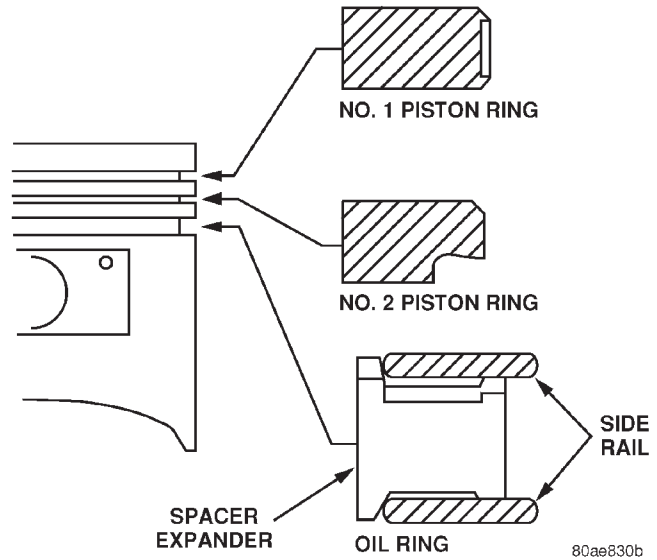

Fig. 95 Piston Ring—Installation
(1) The No. 1 and No. 2 piston rings have a different cross section. Insure that the No. 2 ring is installed with manufacturers I.D. mark (dot) facing up, towards top of the piston (Fig. 95).